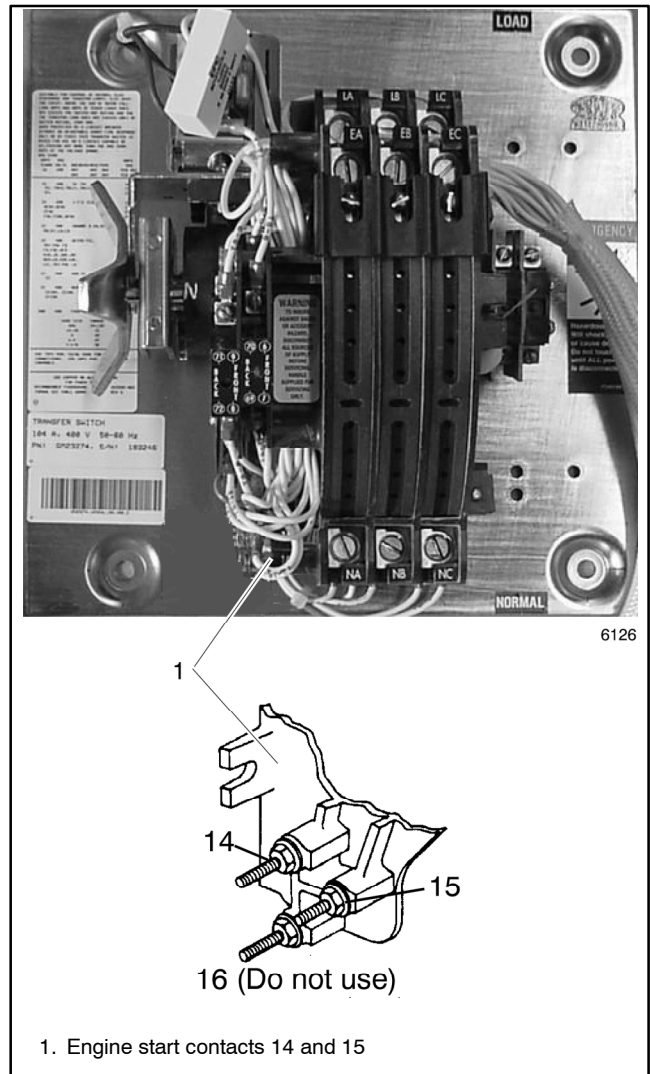
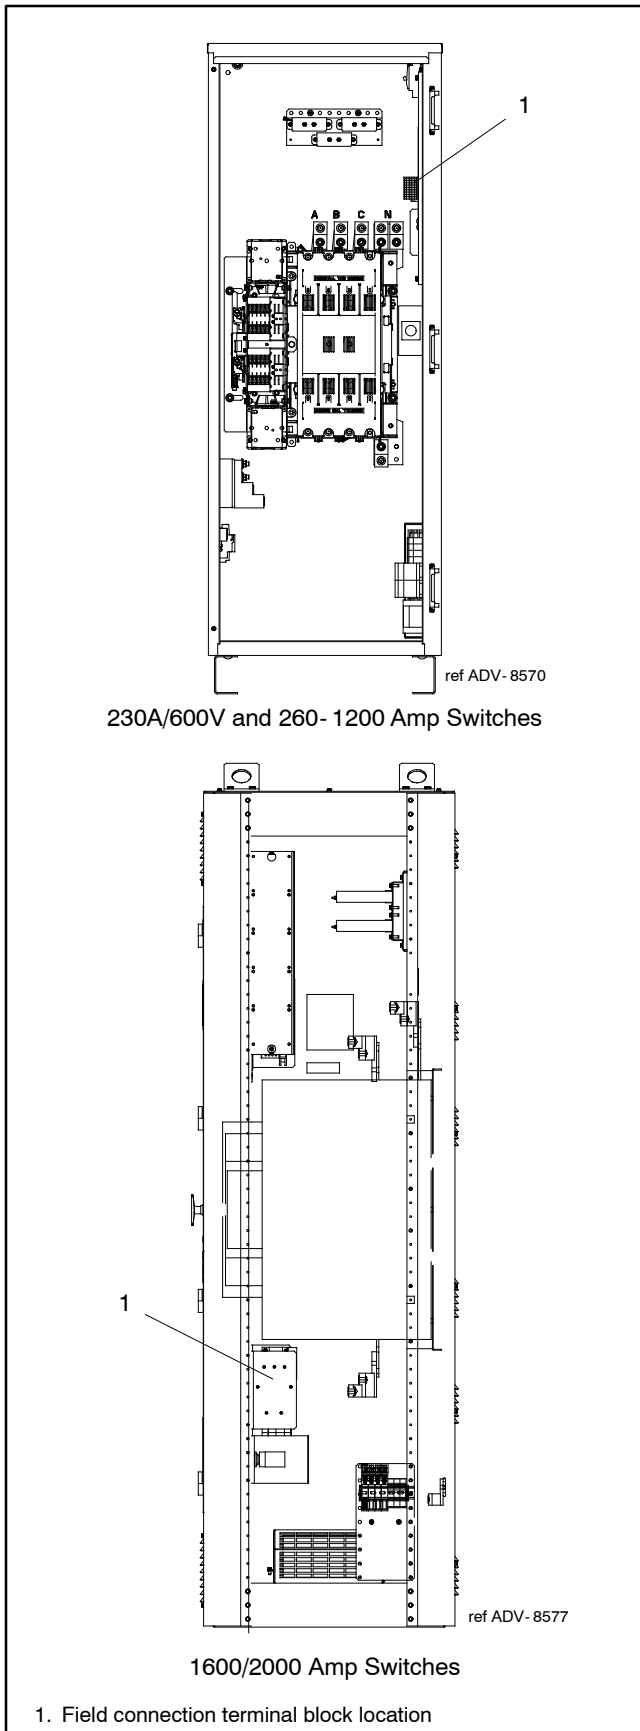

Figure 2-33 Engine Start Contacts, 30- 200 Amp Switches
Figure 2-34 Field Connection Terminal Block Locations, Typical
Connect the generator set remote starting circuit to the engine start connections. On 30- 200 amp models, the engine start terminals are located on the transfer switch contactor assembly and labeled with a decal. See Figure 2-33. On larger models, the engine start contacts and auxiliary contacts are located on the field-connection terminal block. See Figure 2-34 or the transfer switch dimension drawing for the location of the engine start contacts. Refer to the generator set installation manual for wire size specifications.
- On 230A/600V and 260-4000Amp units, the contacts are located on the field connection terminal block. See Figure 2-34. See Figure 2-38 for typical connections.